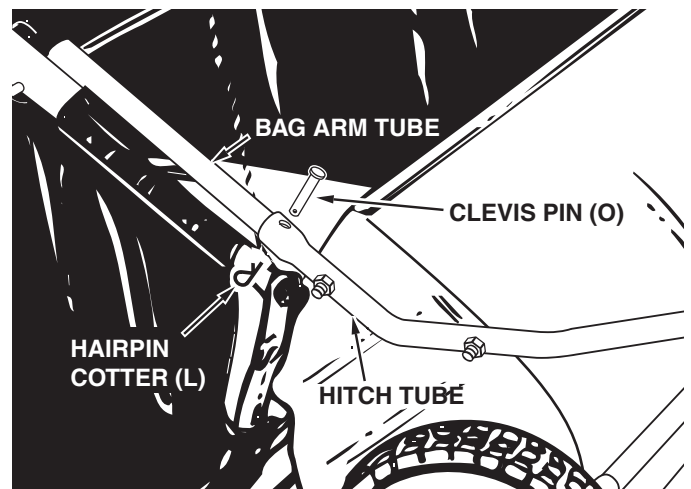

FIGURE 18
- To attach the hopper bag to the sweeper, slide the ends of the bag arm tubes into the ends of the hitch tubes and secure with two clevis pins (O) and hairpin cotters (L). See figure 18.